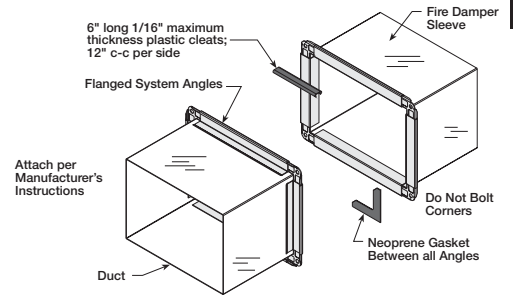

Figure 10 — Breakaway Connections PROPRIETARY FLANGED SYSTEM BREAKAWAY CONNECTIONS
- a. Install connection system manufactured by Ductmate, Ward or Nexus. See Figure 10.